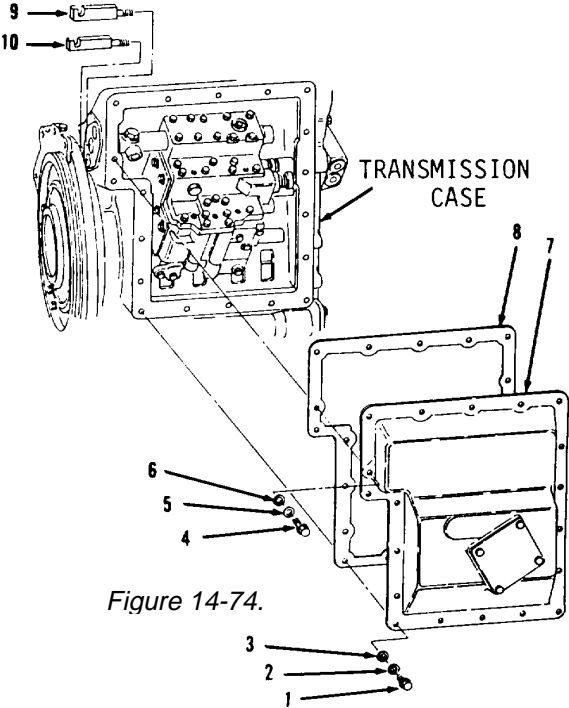

Figure 14-74.
1. Remove 18 bolts (1), lockwashers (2), washers (3), bolt (4), lock-washer (5), washer (6), cover (7) and gasket (8, Figure 14-74) from transmission case. Discard gasket (8). Remove all gasket material from mounting surfaces.